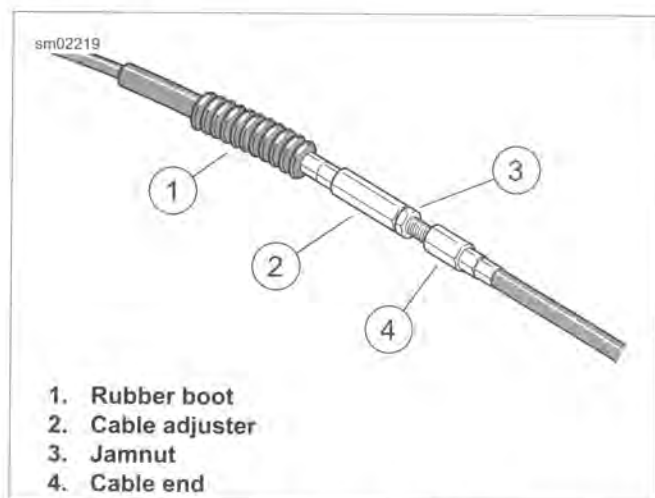

Figure 2-86. Clutch Cable Adjuster
4. See Figure 2-86. Slide rubber boot off clutch cable adjuster. Adjust cable to introduce free play.